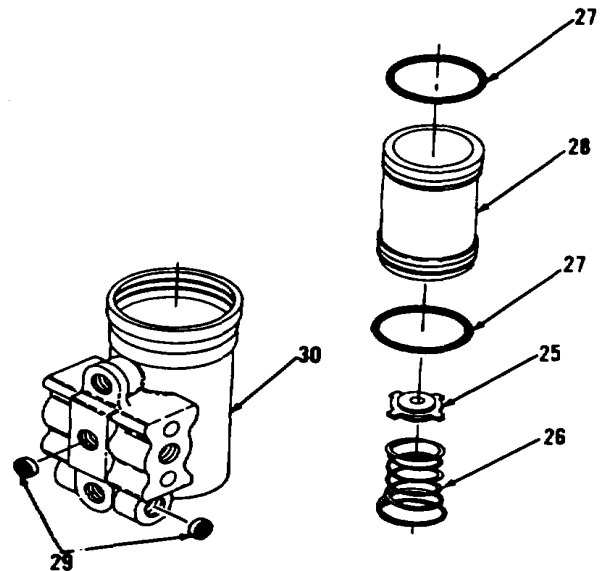

Figure 6-62.
10. Turn air compressor governor (30, Figure 6-62) right side up.
11. Remove valve (25) and valve spring (26).
12. Remove and discard two preformed packings (27) from piston (28).
13. Remove two filters (29) from air compressor governor (30).
1. Lubricate air compressor governor (30) and piston (28) with grease.
2. Install two filters (29) in air compressor governor (30, Figure 6-62).
3. Turn piston (28) upside down.
4. Lubricate two new preformed packings (27) with grease and install in piston (28).
5. Drop valve (25) into place inside bottom of piston (28).
6. Install valve spring (26) into bottom of piston (28) with small end against valve (25). Dress down until the larger coiled end snaps into the groove inside piston (28). Turn piston (28) upright.